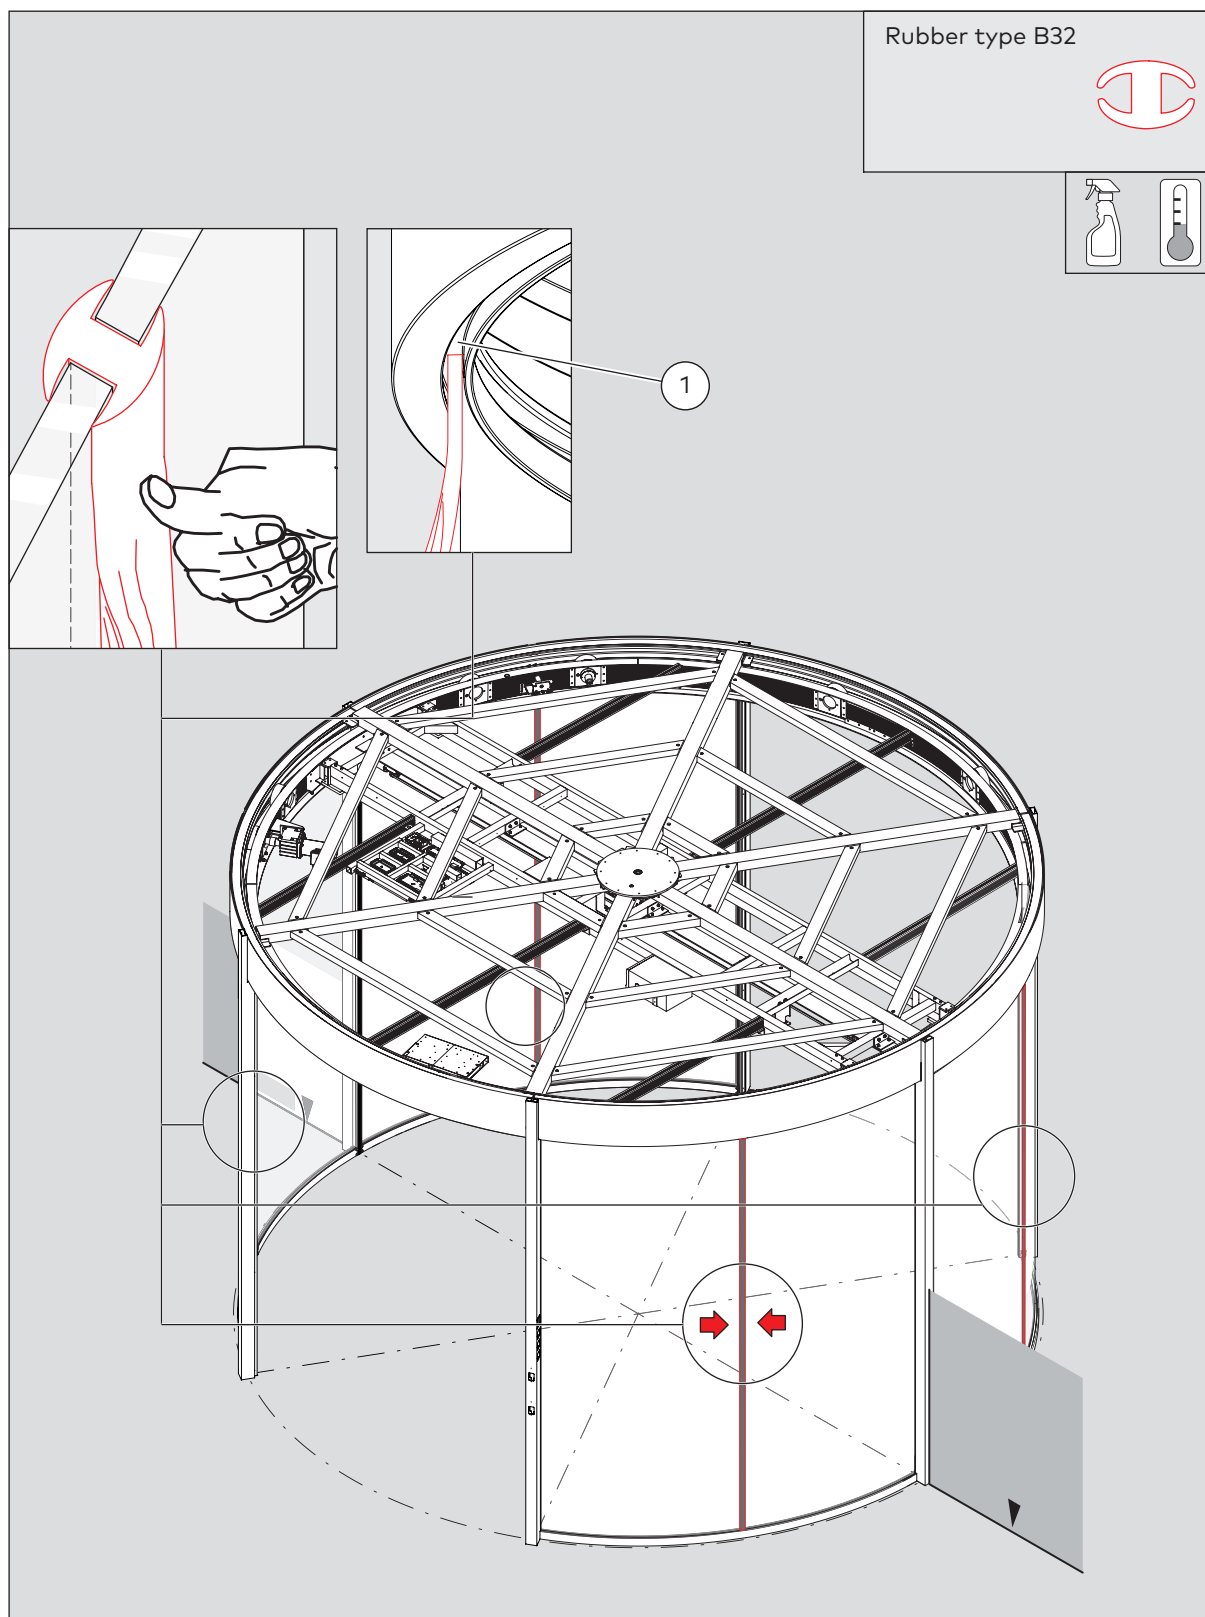

Fig. 63 Mounting the rubber covers $D \leq 4800$
3. Make sure that the rubber cover is inserted into the groove (Fig. 63/1) of the upper and lower profiles.